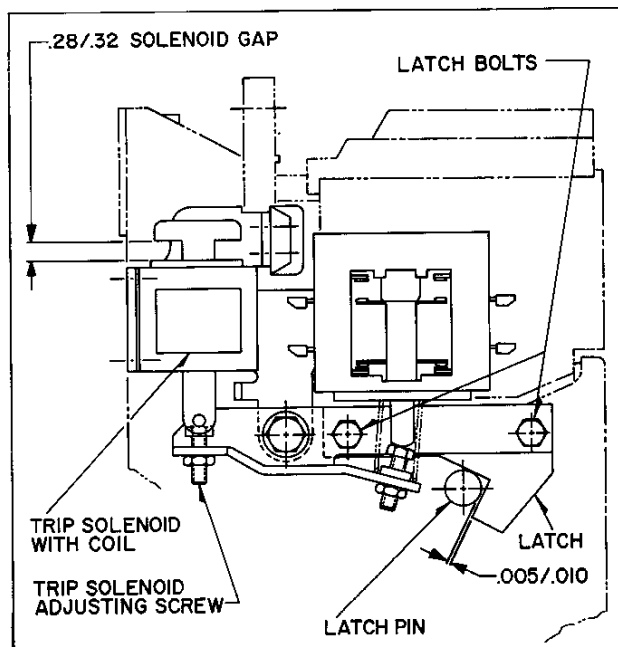
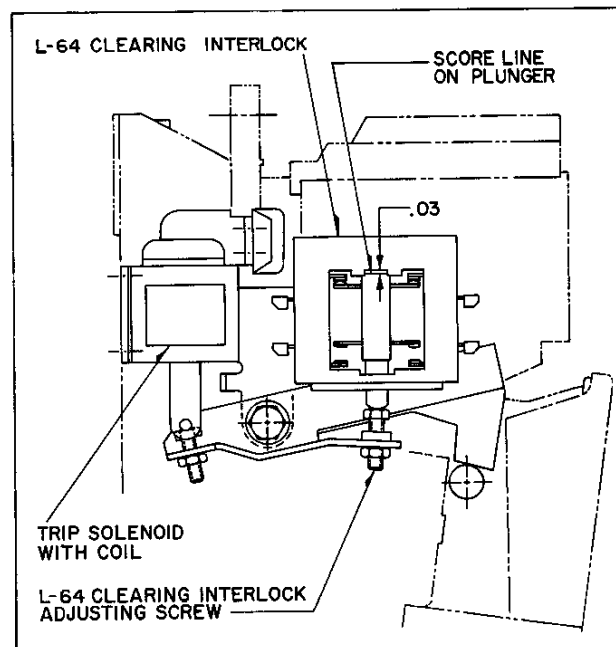

Fig. 6 Adjustment of Latch and Trip Solenoid - Contactor Closed
Fig. 7 Adjustment of Clearing Interlock - Contactor Open
- Adjustments** of latch assembly per Fig. 6 and Fig. 7.
Adjustments Fig. 6 and Fig. 7
1) Latch Adjustment - Fig. 6
2) Trip Solenoid Adjustment - Fig. 6
3) Clearing Interlock Adjustment Fig. 7